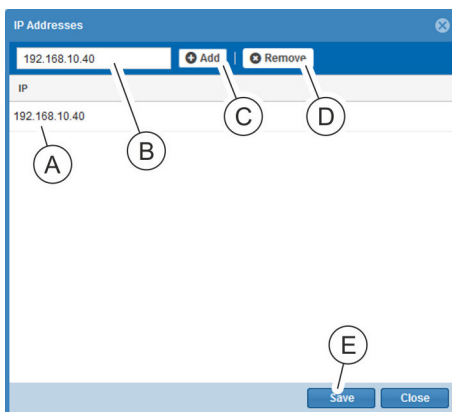

Fig. 137: “IP Addresses” window
⇒ The “IP Addresses” window opens (Fig. 137).
7. ➔ Enter an IP address or host name (Fig. 137/B) in the text box and use the “Add” button (Fig. 137/C) to add it to the list (Fig. 137/A).
8. ➔ If necessary, select an IP address or host name from the list (Fig. 137/A) and delete it from the list by pressing “Delete” (Fig. 137/D).
9. ➔ After completing the entry, close the “IP Addresses” window by clicking the “Save” button (Fig. 137/E).